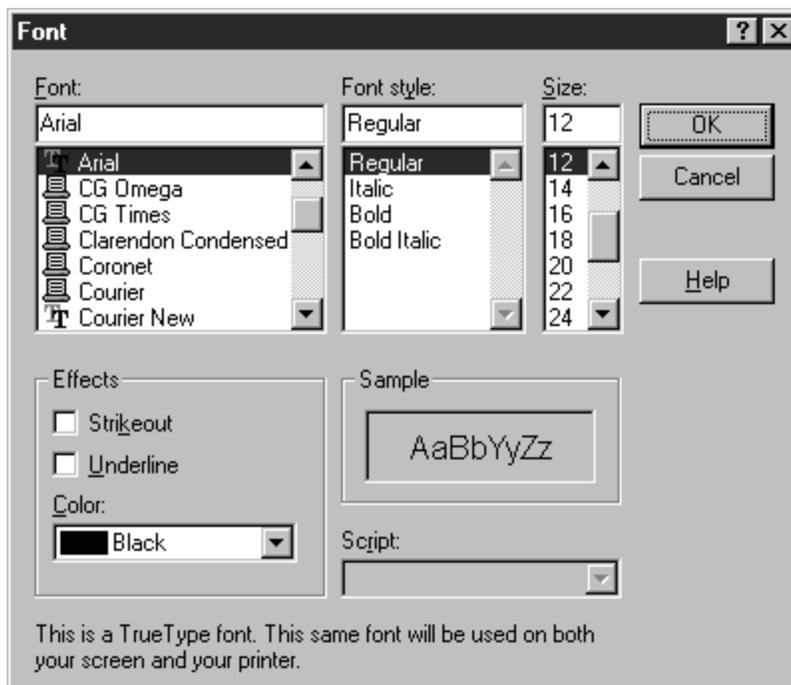

Figure 4.3. Font Dialog
2. Select Format ⇒ Font. Select a font from the Font menu (see Figure 4.3).